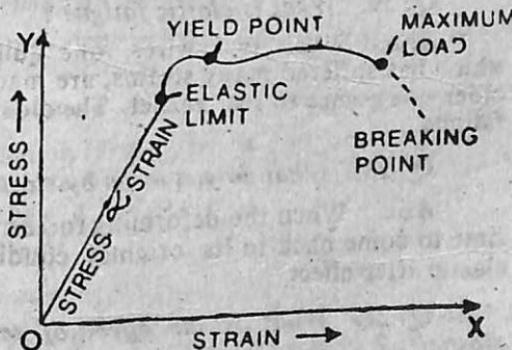

Fig. 32.3
**Ans.** Suppose a wire of uniform area of cross-section is suspended from a rigid support and is stretched by hanging a load at the other end. If the load is increased gradually, the length of the wire also increases accordingly. If the values of stress and corresponding strain are determined at various stages and a graph is plotted between them, then the stress-strain, curve is obtained as shown in Fig. 32.3.